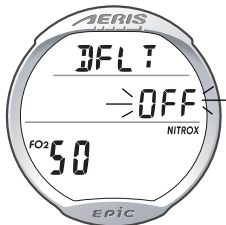

Fig. 46 - SET FO2 DEFAULT
**SET FO2 50% DEFAULT** information includes (Fig. 46):